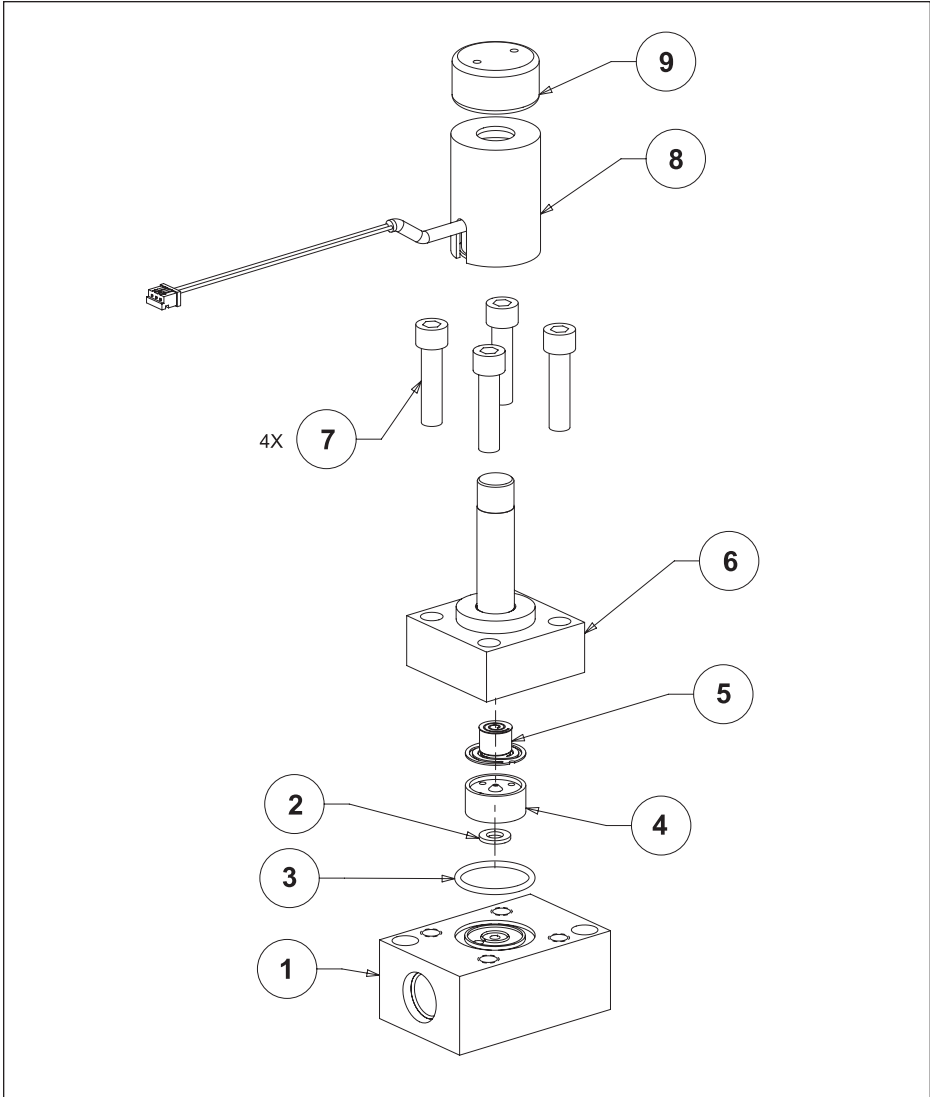
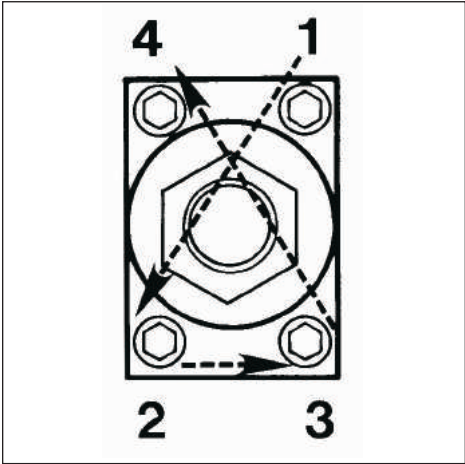

Figure 4-3 Exploded Diagram of Valve Assembly
Figure 4-4 Valve Torque Pattern
Refer to the parts list Figure 4-3.
4. Install the valve seat, item (5) in the valve cavity on top of the orifice.
5. Install O-ring, item (3) in the valve body, item (1). It is recommended that a new O-ring be used. Refer to parts list in Figure 4-3. When ordering the O-ring specify the correct compound i.e. Viton, Kalrez etc. depending upon your specific process.
6. Install the valve stem, item (6) over the valve seat, item (5) and center of the valve body, item (1).
7. Install the four valve screws, item (7) until they make light contact with the base of the valve stem, item (6). Torque the valve screws in a diagonal pattern in three increments slowly rising to a final torque value of 175 inch-pounds (20 N-m). Refer to Figure 4-4.
8. Install the valve coil, item (8).
9. Install the valve cover, item (9).
10. Install the valve nut, item (10) hand tight (snug).